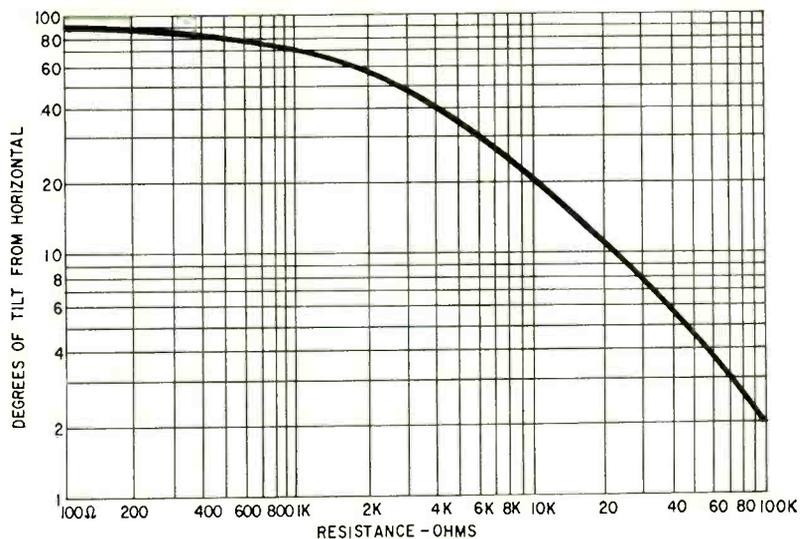

Fig. 5—Plot of tilt-angle of scope trace against resistance makes it possible to find approximate values of resistors and of pots in various positions.
**Resistors.** Since an open circuit between GND and HORIZ shows as a horizontal line, and a short circuit shows as a vertical line, it stands to reason that a finite nonzero value of resistance will show as something in between—a slanted line. Fig. 5 is a plot of the angle of this line from the horizontal as a function of resistance. Of course, the Curve Tracer must be calibrated for the chart to be valid. Values from 100 to 100,000 ohms can be estimated. Less than 100 ohms is essentially vertical; more than 100,000 ohms is essentially horizontal. The unknown resistance is merely placed across GND-HORIZ, the angle estimated, and the resistance read from Fig. 5.
**Potentiometers.** Connect the center lug and either end of the pot between HORIZ and GND. As the shaft of the pot is rotated the display will be a straight line that swings between vertical and horizontal. A jumpy or fuzzy trace indicates a noisy unit, which should be squirted with contact cleaner or discarded. The resistance value can be estimated from Fig. 5 by judging or measuring the trace angle from the horizontal.
**Photoconductors.** Connect between HORIZ and GND. Keep the face of the cell covered with your hand. The trace should be horizontal, or at a slight angle, indicating the high dark resistance of the cell. Now expose the surface of the cell to light and the line will slant toward the vertical. By using Fig. 5 you can estimate the resistance